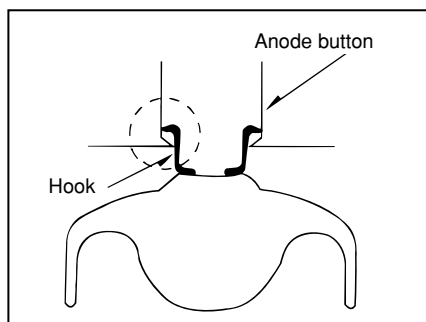

Figure 3-7
- (7) Apply the hook on the other side to the anode button as shown in Figure 3-7.